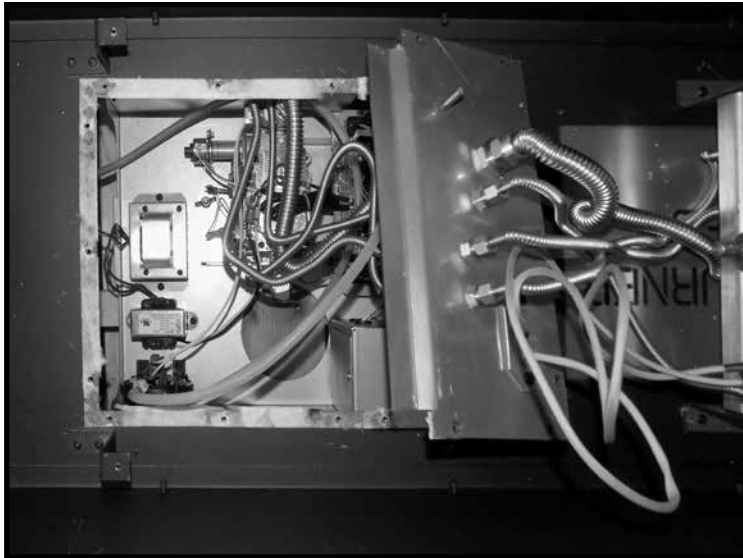

Figure 30: Small plate lifted to provide access to connector.
3. Remove screws for the small cover panel and lift the panel and flexible gas lines enough to be able to get your hand underneath it (Figure 30).